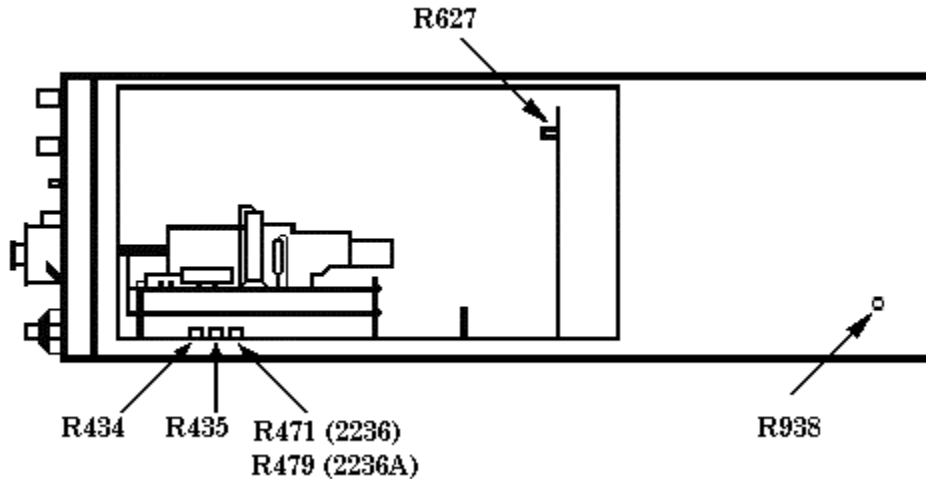

Figure 2. Adjustments – right side view.
- (9) Disconnect digital multimeter.
- (10) Position TI switches as listed in (a) through (e) below:
- (11) Connect oscilloscope calibrator **SOURCE/MEASURE CHAN 1** to TI **CH 1** using 50 Ω feed through termination.
- (12) Set oscilloscope calibrator for a **SOURCE/MEASURE CHAN 1, LEVEL SINE** output of **50 kHz** and 2.2 divisions of vertical display on TI.
- (13) Set TI **CH 1 VOLTS/DIV** switch to **1**.
- (14) Adjust R471 (2236) (fig. 2) or R479 (2236A) (fig. 2) while rotating **A TRIGGER LEVEL** control slowly so that **A TRIGGER** is just able to be maintained (R).
- (15) Set TI **CH 1 VOLTS/DIV** switch to **50m** and adjust **A TRIGGER LEVEL** control fully cw.
- (16) Set oscilloscope calibrator **LEVEL SINE** output amplitude for 5 divisions of vertical display on TI.
- (17) Set TI **CH 1 VOLTS/DIV** switch to **.5**.
- (18) Adjust R434 (fig. 2) so display just solidly triggers on positive peak of signal (R).
- (19) Press **TI A TRIGGER SLOPE** pushbutton to **IN:**  and adjust **A TRIGGER LEVEL** control fully ccw.
- (20) Adjust R435 (fig. 2) so display just solidly triggers on negative peak of signal (R).
- (21) Connect oscilloscope calibrator **SOURCE/MEASURE CHAN 1** to one side of a BNC tee. Connect BNC tee to **TI CH 1** using a X10 attenuator and 50Ω feedthrough termination. Connect remaining side of BNC tee to **TI EXT INPUT**.
- (22) Set **TI CH 1 VOLTS/DIV** switch to **10m** and **A TRIGGER A SOURCE** switch to **EXT**.
- (23) Set oscilloscope calibrator for a **LEVEL SINE** output of **50 kHz** and 2.2 divisions of vertical display on TI.
- (24) Adjust **TI A TRIGGER LEVEL** control for a stable display.
- (25) Set **TI HORIZONTAL MODE A ALT B** switch to **B** and adjust **B TRIGGER LEVEL** control for a stable display.
- (26) Set **TI CH 1 VOLTS/DIV** switch to **.1**.
- (27) Adjust R627 (fig. 2) so that a display can be maintained by adjusting **B TRIGGER LEVEL** control (R).